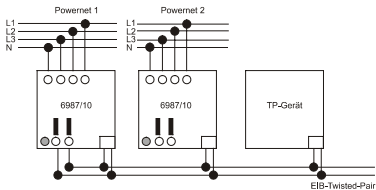

Fig. 3
2. Bus power supply through internal power supply: The system coupler has an internal source of power providing a throttled output voltage of $24\text{ V} \pm 5\text{ V DC}$. This power supply system can supply up to 5 additional devices (system couplers or EIB-TP devices) with power (e.g. to couple several Powernet areas). For internal power supply of the system coupler the output voltage has to be connected to the bus connecting terminal (see Fig. 3).